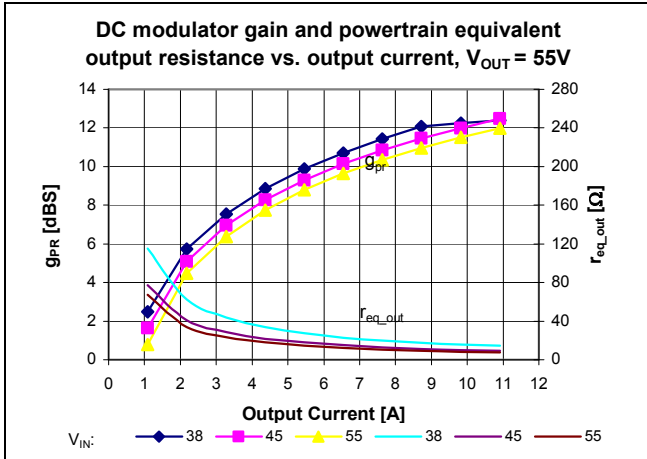
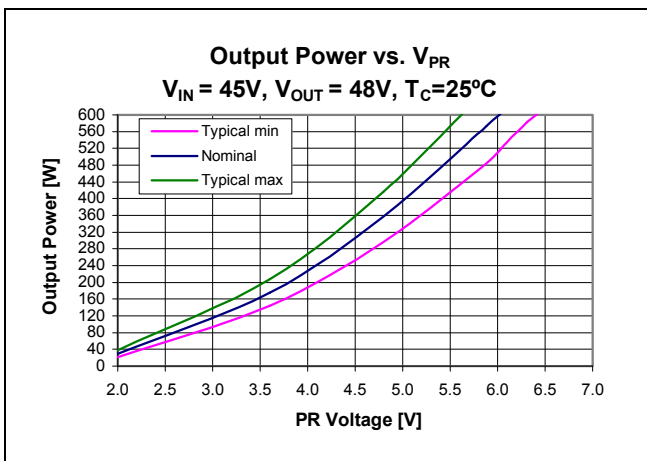

Figure 17 – Powertrain characteristics vs. I_{OUT} ; Resistive load, $V_{OUT}=55V$, various V_{IN}
Figure 21 – Output Power vs. V_{PR} ; $V_{IN}=45V$, $V_{OUT}=48V$, $T_{CASE}=25^{\circ}C$
Control node (PR) is the input to the control node which determines the powertrain timing and ultimately the module output power (Figure 21). An internal 0.5mA current sink is always active. The bi-directional buffer between PR and the control node has two states. In normal operation, PR will be above the 0.79V switching threshold, and will drive the control node through the buffer. An internal 7.4V clamp determines the maximum output power that can be requested of the modulator. When PR falls below 0.79 V, the converter will stop switching. An internal circuit clamps the modulator input control node to 0.79 V, and a buffer will source up to 2.5 mA out of the pin at that clamp level. For this reason, the output impedance of the amplifier driving PR must be taken into account. A rail-to-rail operational amplifier with low output impedance is always recommended. The powertrain small signal (plant) response consists of a single pole determined by the load resistance, the powertrain equivalent output resistance, and the total output capacitance (internal and external to the module). Both the modulator gain and the equivalent output resistance vary as a function of line, load and output voltage, as shown in Figures 17, 18 and 19. As the load increases, the powertrain pole moves to higher frequency. As a result, the closed loop crossover frequency will be the highest at full load and lowest at